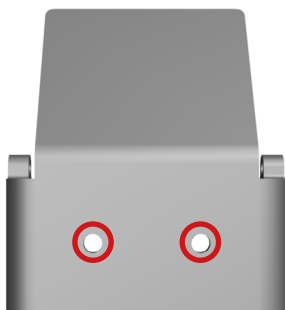

Fig. 3 - Mounting the deflection mirror
4. You can use the two holes highlighted in Fig. 3 to mount the reader and mirror assembly to a flat surface with two M3x8 UNI-7688 screws.